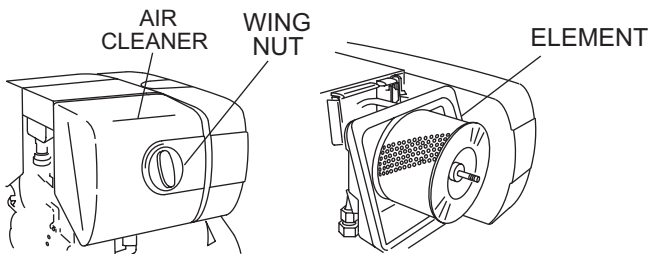

Figure 23. Engine Air Filter and Element
2. To clean or replace air filter loosen the wing nut on the air filter housing (Figure 23) remove the cover and take out air filter cartridge. If only cleaning of the air filter is desired blow through the air filter cartridge from the inside, moving a jet of dry compressed air up and down until all dust is removed.